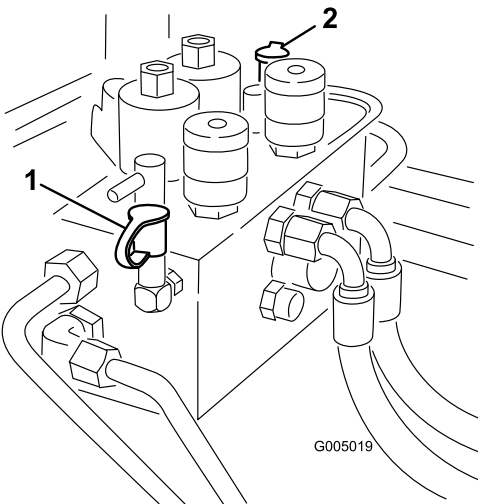

Figure 76
2. Test Port B (Figure 76) is used to assist in troubleshooting the hydraulic circuit for the front cutting units.
3. Test Port C (Figure 76) is used to assist in troubleshooting the hydraulic circuit for the rear cutting units.